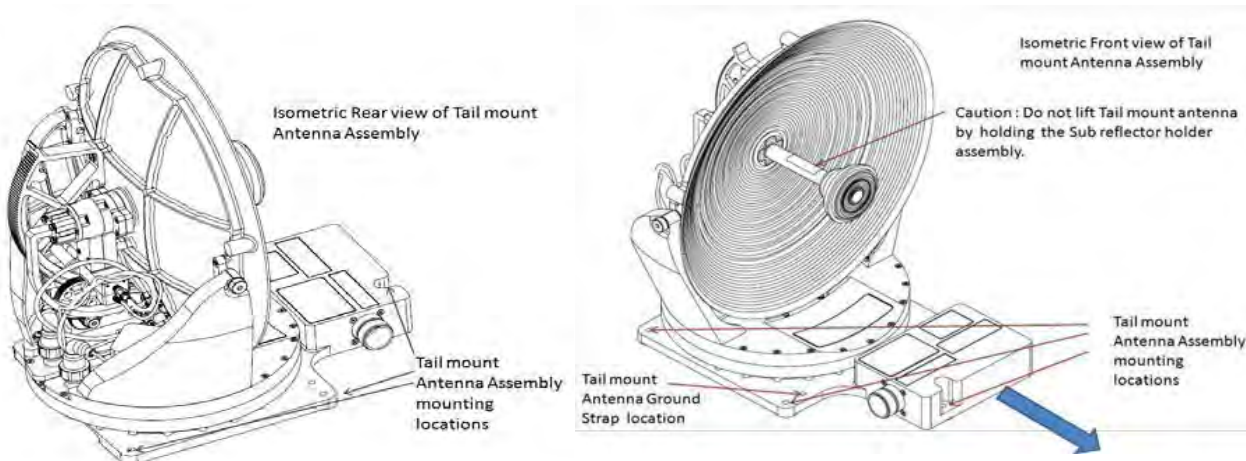

Figure 4-19. TMA Assembly Isometric View
The isometric rear and front views of the TMA assembly is shown in Figure 4-19.
The TMA assembly attaches to the base in five (05) locations. Refer to Figure 4-19 and Figure 4-30 for details.
Orientation of the TMA assembly is defined with respect to the principal axes of the aircraft. The TMA assembly is to be installed such that the TMA J2 connector side is located towards the front of aircraft as indicated by the arrow as shown in Figure 4-19.